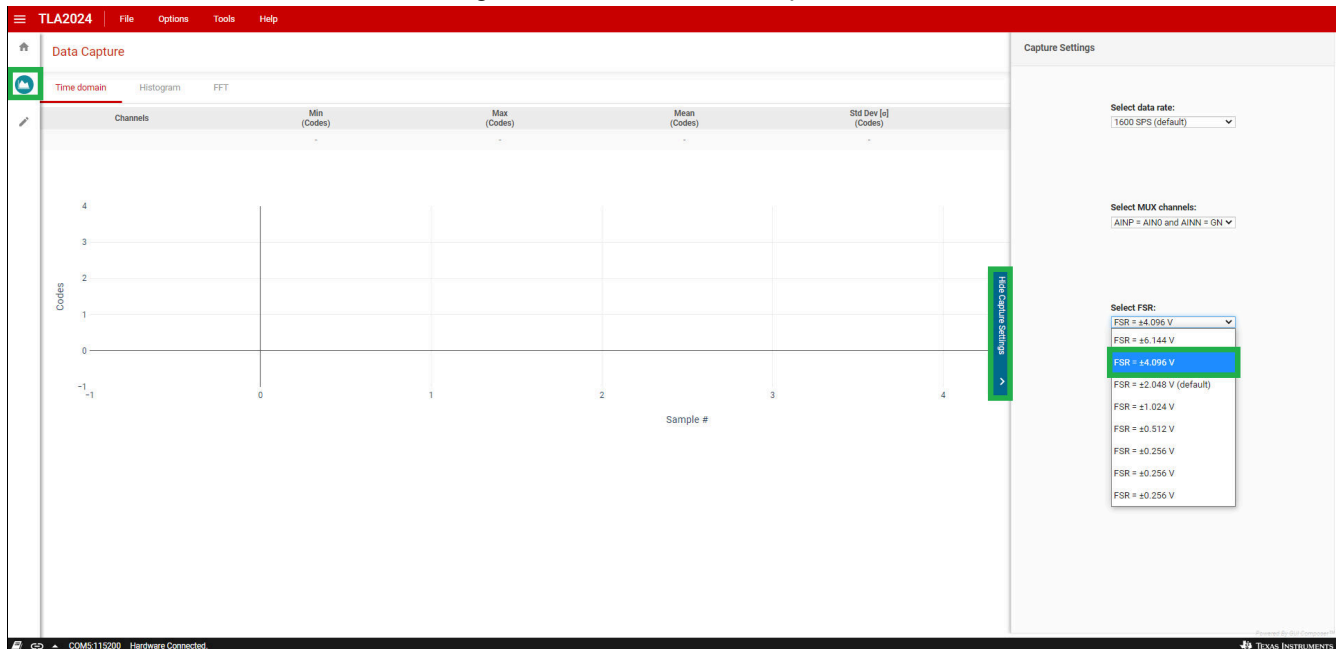

Figure 2-3. Capture Setting – Full-Scale Range (FSR)
2. Select the $FSR = \pm 4.096V$ from the *Select FSR* drop-down menu as shown in Figure 2-3. The selection is needed to increase the full-scale range to measure the 3.3-V input.